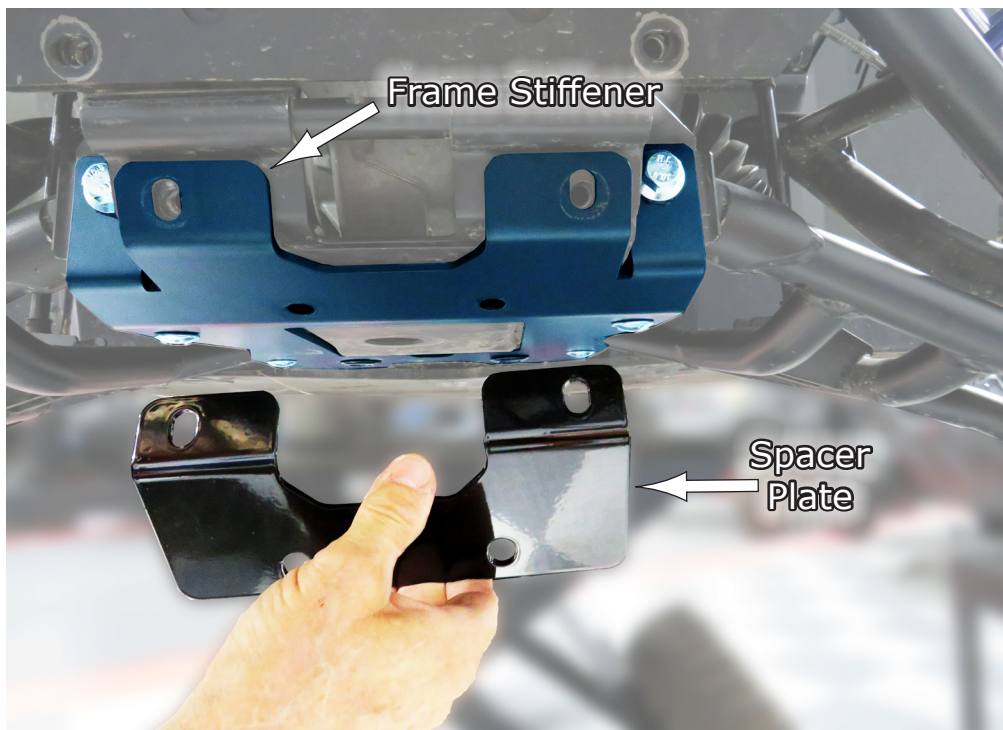

Fig.2
2. Next, there is a **Spacer Plate** provided in your kit for you to use only if you **DO NOT** have a Frame Stiffener installed, shown in Fig.2. The Frame Stiffener is the tinted blue item. The Spacer is used in place of a frame stiffener so the mount has the same spacing behind it. You can see the hole patterns are the same and will install in the same manner. So if you have a frame stiffener, you will **NOT** use this part. See Fig.2.